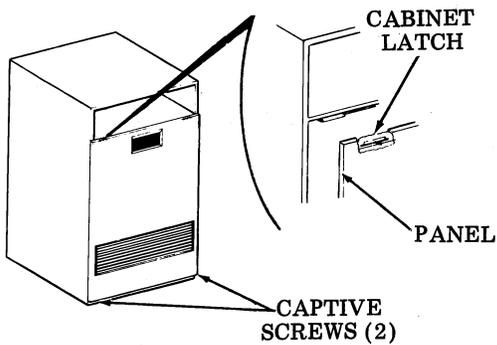

Fig. 17
- ① Remove 45CAB401/AAA controller cabinet front panel by turning the two captive screws (see Fig. 17) 1/4 turn counterclockwise with a screwdriver (screws at bottom of panel). Tilt bottom of panel out just enough to clear the screws from the cabinet holes, then lift the panel up (to clear the cabinet latches) and towards you. Place the panel out of the way.